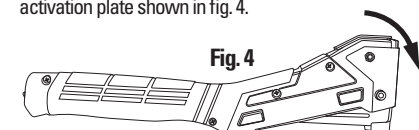

Fig. 4
2. Swing tacker and strike material to be stapled with activation plate shown in fig. 4.